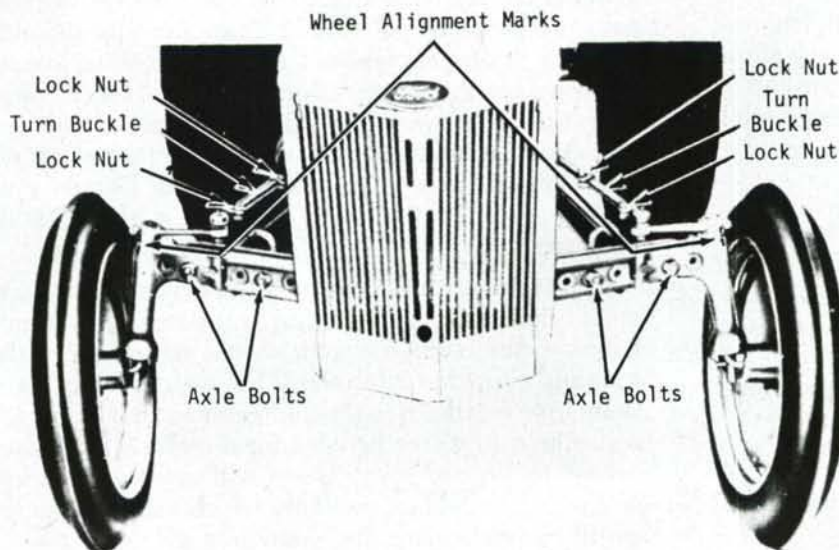

Fig. FO8—Front axle as used on 8N tractors. Note hole spacing of tread adjusting bolts.
9. **ADJUSTMENT.** The front axle is constructed in three sections and may be adjusted to vary the tread width from 48 inches (122 cm) to 76 inches (193 cm). See Figs. FO8 and FO9. Be sure to leave one or more open holes between the bolts attaching the axle extension to axle center member when changing the tread width. Note that the 76-inch (193 cm) tread width spacing is obtained by setting the axle for 68-inch (173 cm) tread and reversing the front wheels.